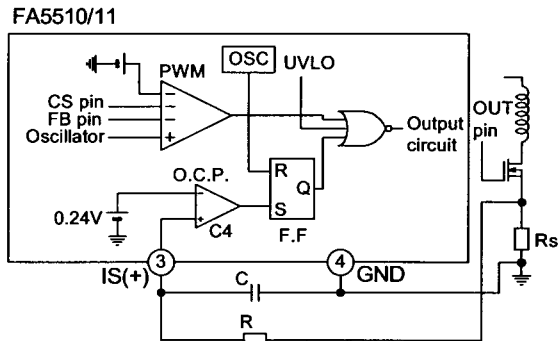
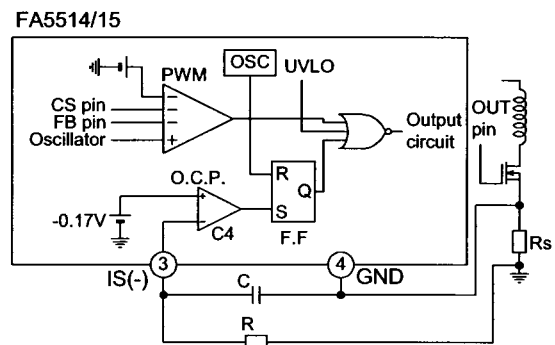
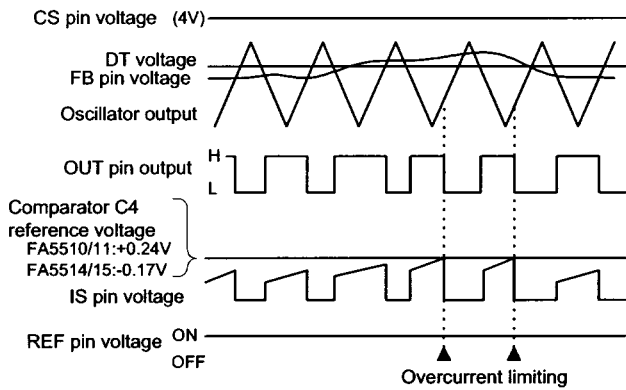

Fig.13 Overcurrent limiting circuit (FA5510/11)
Fig.14 Overcurrent limiting circuit (FA5514/15)
Fig.15 Overcurrent timing chart
The overcurrent limiting circuit detects the peak value of every drain current pulse (pulse by pulse method) of the main switching MOSFET to limit the overcurrent. The detection threshold voltage is +0.24V for FA5510/11 or -0.17V for FA5514/15 with respect to the ground as shown in Figure 13 and Figure 14. The drain current of the MOSFET is converted to voltage by resistor Rs and fed to the IS pin of the IC. If the voltage exceeds the reference voltage +0.24V (FA5510/11) or -0.17V (FA5514/15) of comparator C4, comparator C4 works to set flip-flop output Q to high. The output is immediately turned off to shut off the current. Flip-flop output Q is reset on the next cycle to turn on the output again. This operation is repeated to limit the overcurrent.
If the overcurrent limiting circuit malfunctions due to noise, place an RC filter between the IS pin and MOSFET as shown in Figure 13 and Figure 14. (See item 12 in "Design advice.") Figure 15 is a timing chart that illustrates overcurrent-limiting operations.